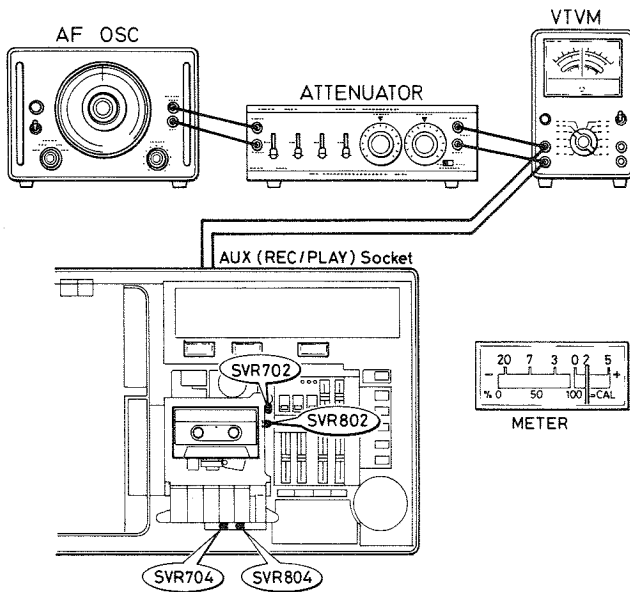

Fig. 18
6. Obtain a meter reading of +2VU ± 0.5dB, adjusting SVR702 and SVR802. (Fig. 18)